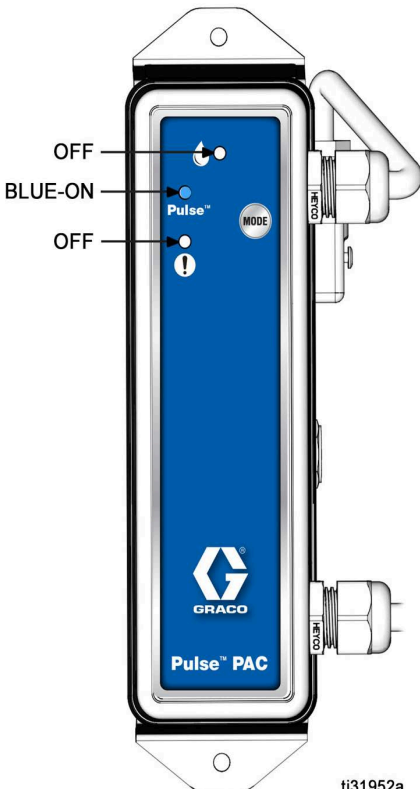
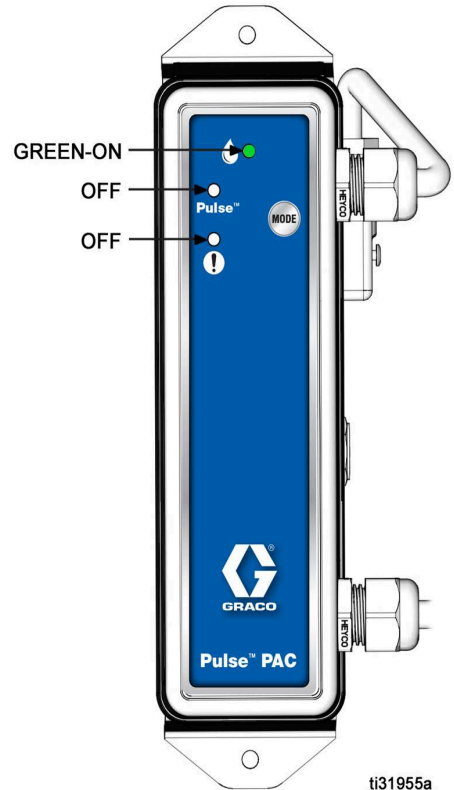
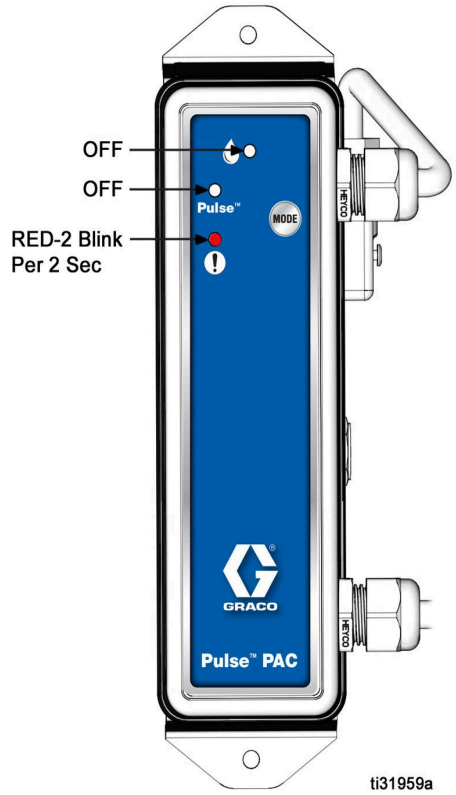

FIG. 16
FIG. 19
FIG. 23
**NOTE:** See **Pulse Mode, No Errors** (FIG. 16, page 12) and **Work Off Line Mode, No Errors**, FIG. 19, page 13).
- In the Pulse (preferred) (FIG. 16) mode, the pump will not operate unless it receives authorization from the Pulse software.
**NOTE:** In this mode, the Pulse (B) continuous blue light is on.
- The Work Off Line mode (FIG. 19) turns on air to the pump so the pump can be energized without an authorization through Pulse.
**NOTE:** In this mode, the Work Off Line (C) continuous green light is on.
LEDs on the PAC illuminate and/or flash to report the status or error code of the PAC. Refer to FIG. 16 - FIG. 23 to determine the PAC status.